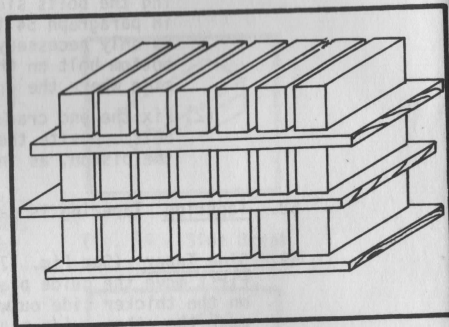

Fig. 20 - Blocks stacked for first 5-day cure.
64. The blocks should be laid on flat, unwarped, clean planks wide enough to support the full width of the blocks (See Fig. 20) If such boards are not available, the blocks should be placed on smooth ground covered with paper or leaves so that they will not be in direct contact with the earth